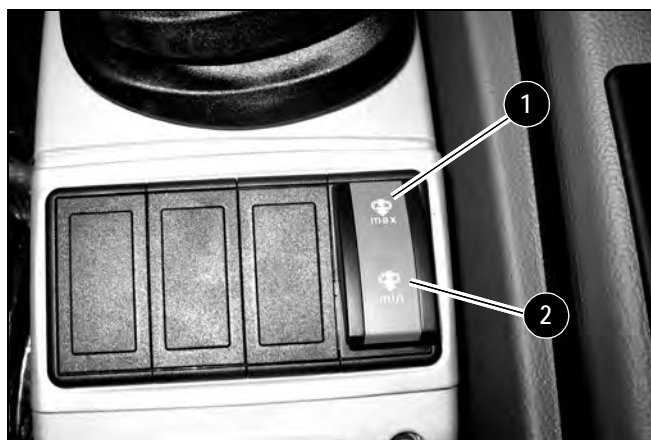

Figure 3-20 Auxiliary Hydraulics Flow Rate Switch
Press the “max” end (1, Figure 3-20) of the auxiliary hydraulics flow rate switch to enable maximum/“power” auxiliary hydraulic flow; Press the “min” end (2) of the auxiliary hydraulics flow rate switch to enable minimum/“precision” auxiliary hydraulic flow.